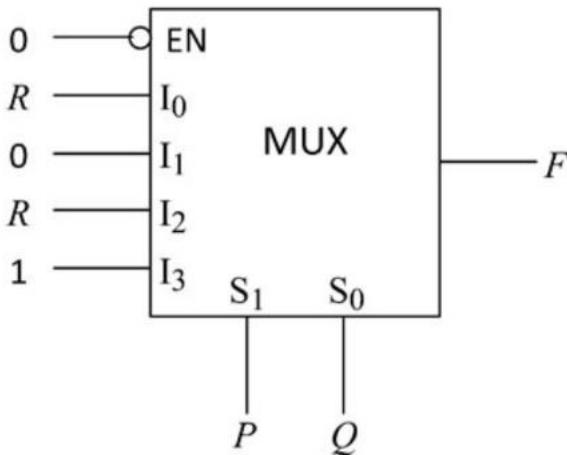

Fig. 4.30
53. Fig. 4.30 below shows a multiplier where S_1 and S_0 are select lines, I_0 to I_3 are the input data lines, EN is the enable line, and $F(P, Q, R)$ is the output. F is (GATE EC 2020)